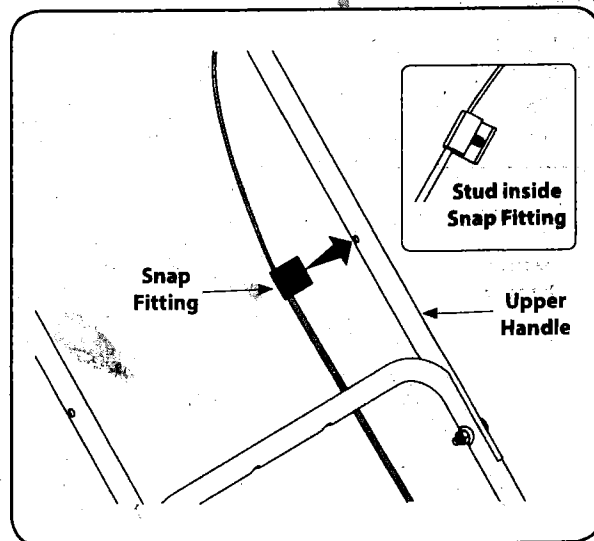
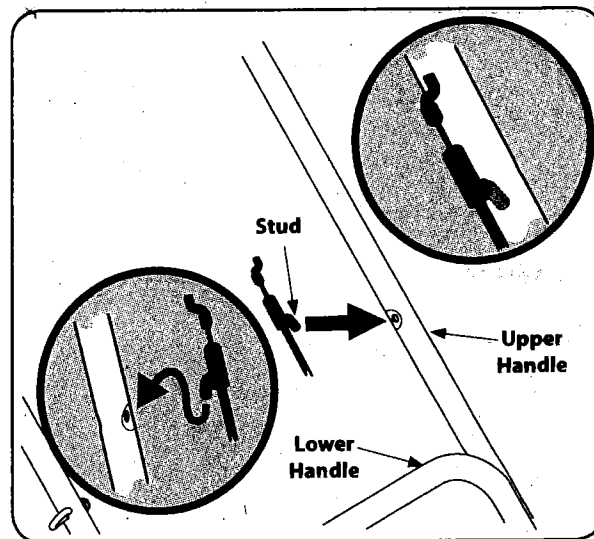

Figure 3-7
Figure 3-8
NOTE: Your mower has been supplied with one of two types of control cables - one that is secured with a snap fitting as shown in Figure 3-7 or one that is secured with a stud as shown in Fig. 3-8. Make note of the cable supplied with your mower and follow the appropriate steps below.
1. Press the stud found inside the snap fitting into the hole found on the left side of the upper handle, as shown in Figure 3-7.
1. Press the stud found on the cable fitting into the hole found on the left side of the upper handle, as shown in the Figure 3-8 insets.